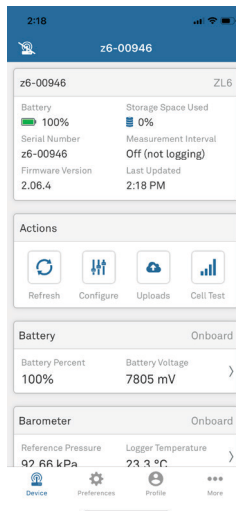

Figure 12 Select Test to begin Communication Test
- Select the Cell Test button on the Actions panel (Figure 12).